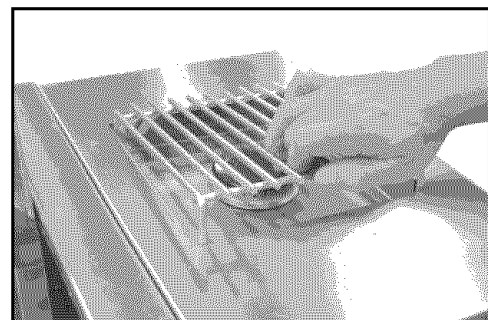

Fig. 12
4. Install grate over burner. (See Fig. 12)